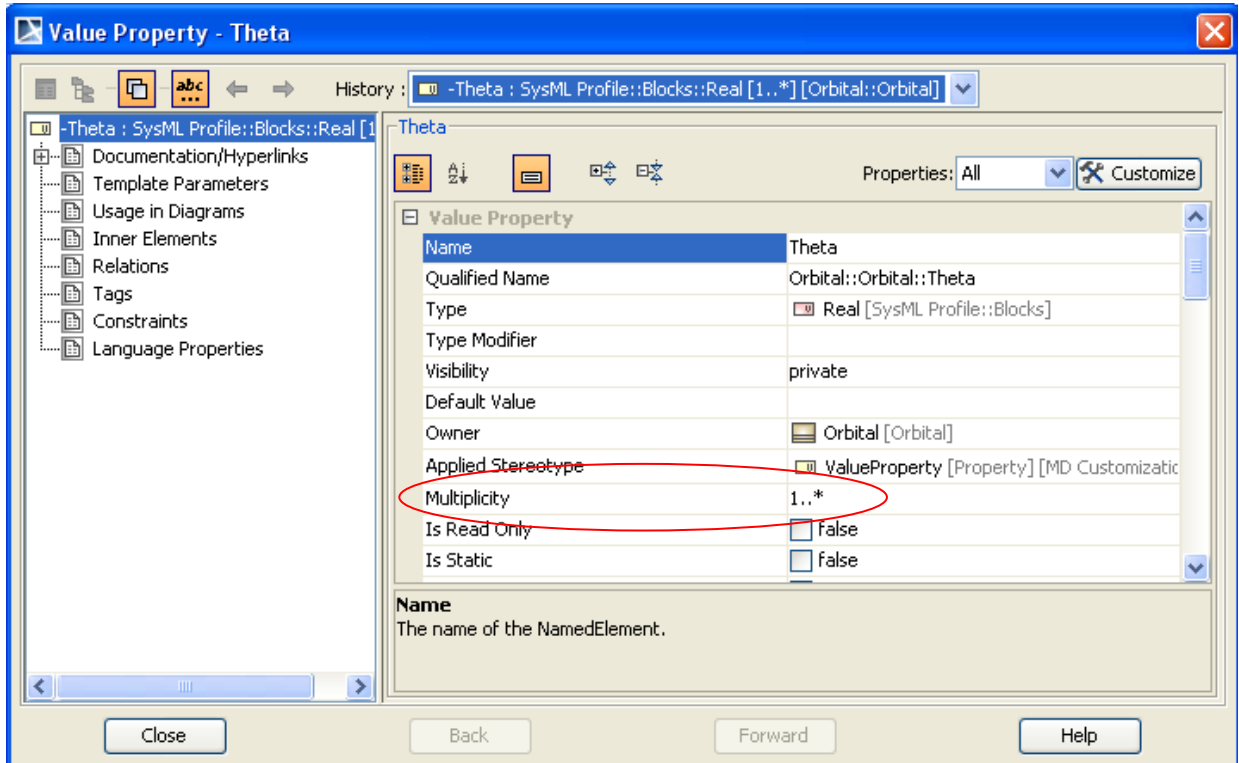

Figure 6.3 Setting the value property **Theta** multiplicity to 1...*
- ii. Double click on **Theta** (in Containment tree or on block definition diagram) and open the Value Property dialog box (see Fig. 6.3).